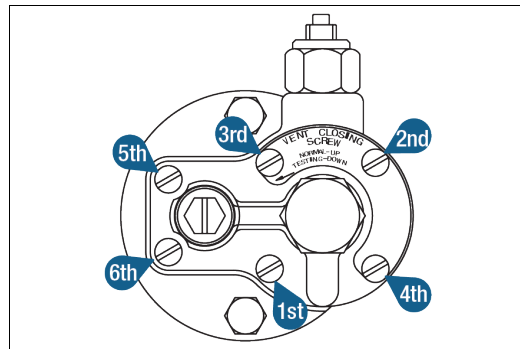

Figure 8. Functional Element Screw Tightening Sequence
- Return the Diaphragm to the normal position on the top of the Functional Element. Install the top of the Functional Element, Poppet, and Diaphragm assembly onto the body of the Functional Element using the 6 – 1/4-28 Fillister Head Screws and torque these fasteners, sequentially as shown in Figure 8 to 40-65 in-lbs.